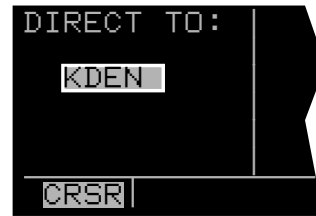

Figure 3-87
The  button is used to initiate Direct To operation (navigation from your present position direct to your destination). When  is pressed, the Direct To page will be displayed on the left side with a flashing cursor over a waypoint identifier (figure 3-87). The waypoint identifier which appears on the Direct To page is chosen by the KLN 900 according to the following rules:
1. Press **ENT**. The Direct To page is displayed on the left side (figure 3-87). The cursor will already be on the left page. A waypoint identifier may or may not be displayed, it doesn't matter at this point.